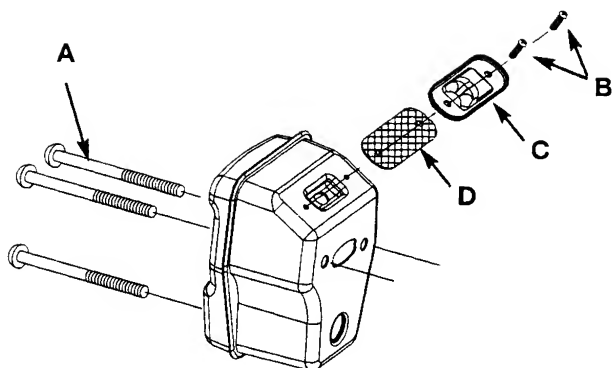

Fig. 29
2. Remove the 2 screws (B) that hold the spark arrester cover (C) (Fig. 29).
3. Discard the used spark arrester screen (D) and replace it with a new one.